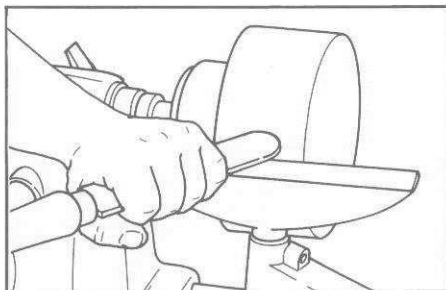

Figure 12. Rounding.
2. Rounding—Round the outside, using a roundnose or gouge, just as you would for spindle rounding. (See Figure 12.) If the wood grain is perpendicular to the axis of rotation, do not shear.